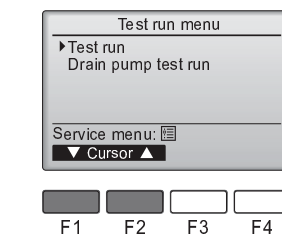

Fig. 7-4
- ④ Select "Test run" with the [F1] or [F2] button, and press the [SELECT] button. (Fig. 7-4)